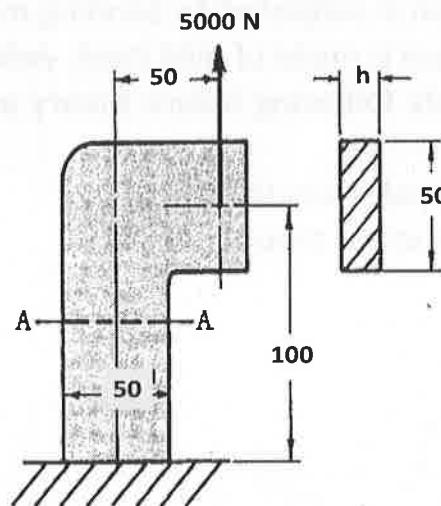

Fig.1
2. Determine the required thickness of the steel bracket at section A-A, when loaded as shown in Fig.1. in order to limit the tensile stress to 100 N/mm^2 . All dimensions are in mm.